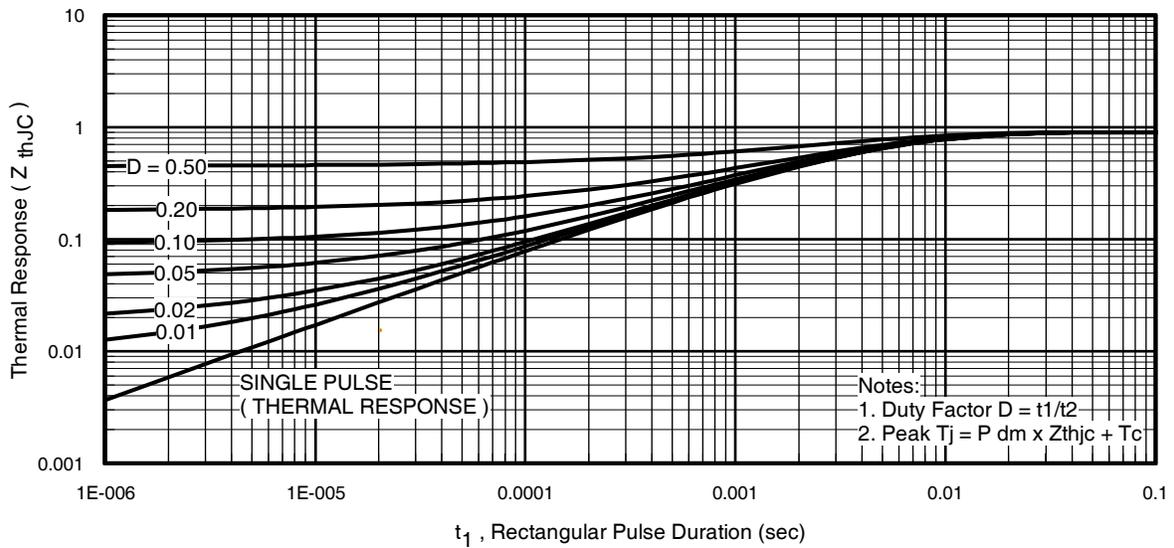
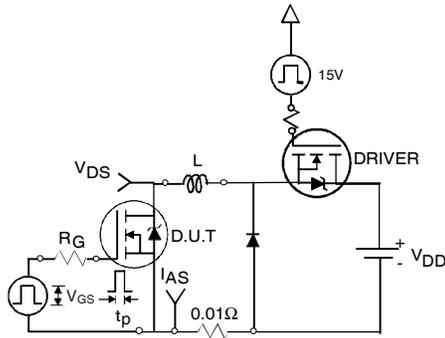

Fig 11. Maximum Effective Transient Thermal Impedance, Junction-to-Case
Fig 12a. Unclamped Inductive Test Circuit
- ① Repetitive rating; pulse width limited by max. junction temperature. (See fig. 11).
- ② Limited by T_{Jmax}, starting T_J = 25°C, L = 0.12mH, R_G = 25Ω, I_{AS} = 53A, V_{GS} = 10V. Part not recommended for use above this value.
- ③ I_{SD} ≤ 53A, di/dt ≤ 420A/μs, V_{DD} ≤ V_{(BR)DSS}, T_J ≤ 175°C.
- ④ Pulse width ≤ 1.0ms; duty cycle ≤ 2%.
- ⑤ C_{oss eff.} is a fixed capacitance that gives the same charging time as C_{oss} while V_{DS} is rising from 0 to 80% V_{DSS}.
- ⑥ Limited by T_{Jmax}, see Fig.12a, 12b, 15, 16 for typical repetitive avalanche performance.
- ⑦ This value determined from sample failure population. 100% tested to this value in production.
- ⑧ This is applied to D²Pak, when mounted on 1" square PCB (FR-4 or G-10 Material). For recommended footprint and soldering techniques refer to application note #AN-994.
3. Equation below based on circuit and waveforms shown in Figures 12a, 12b.
$Z_{thJC}(D, t_{av})$ = Transient thermal resistance, see figure 11)